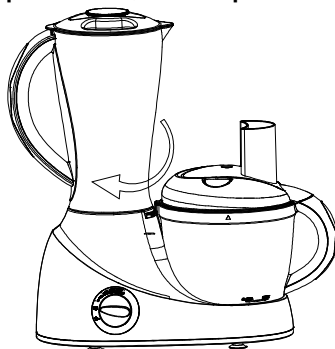

Fig.1
a) Place the jar on the Motor Unit and slightly turn the jar clockwise as the arrow on the jar show, until the jar locks with the base as illustrated (see fig.1).